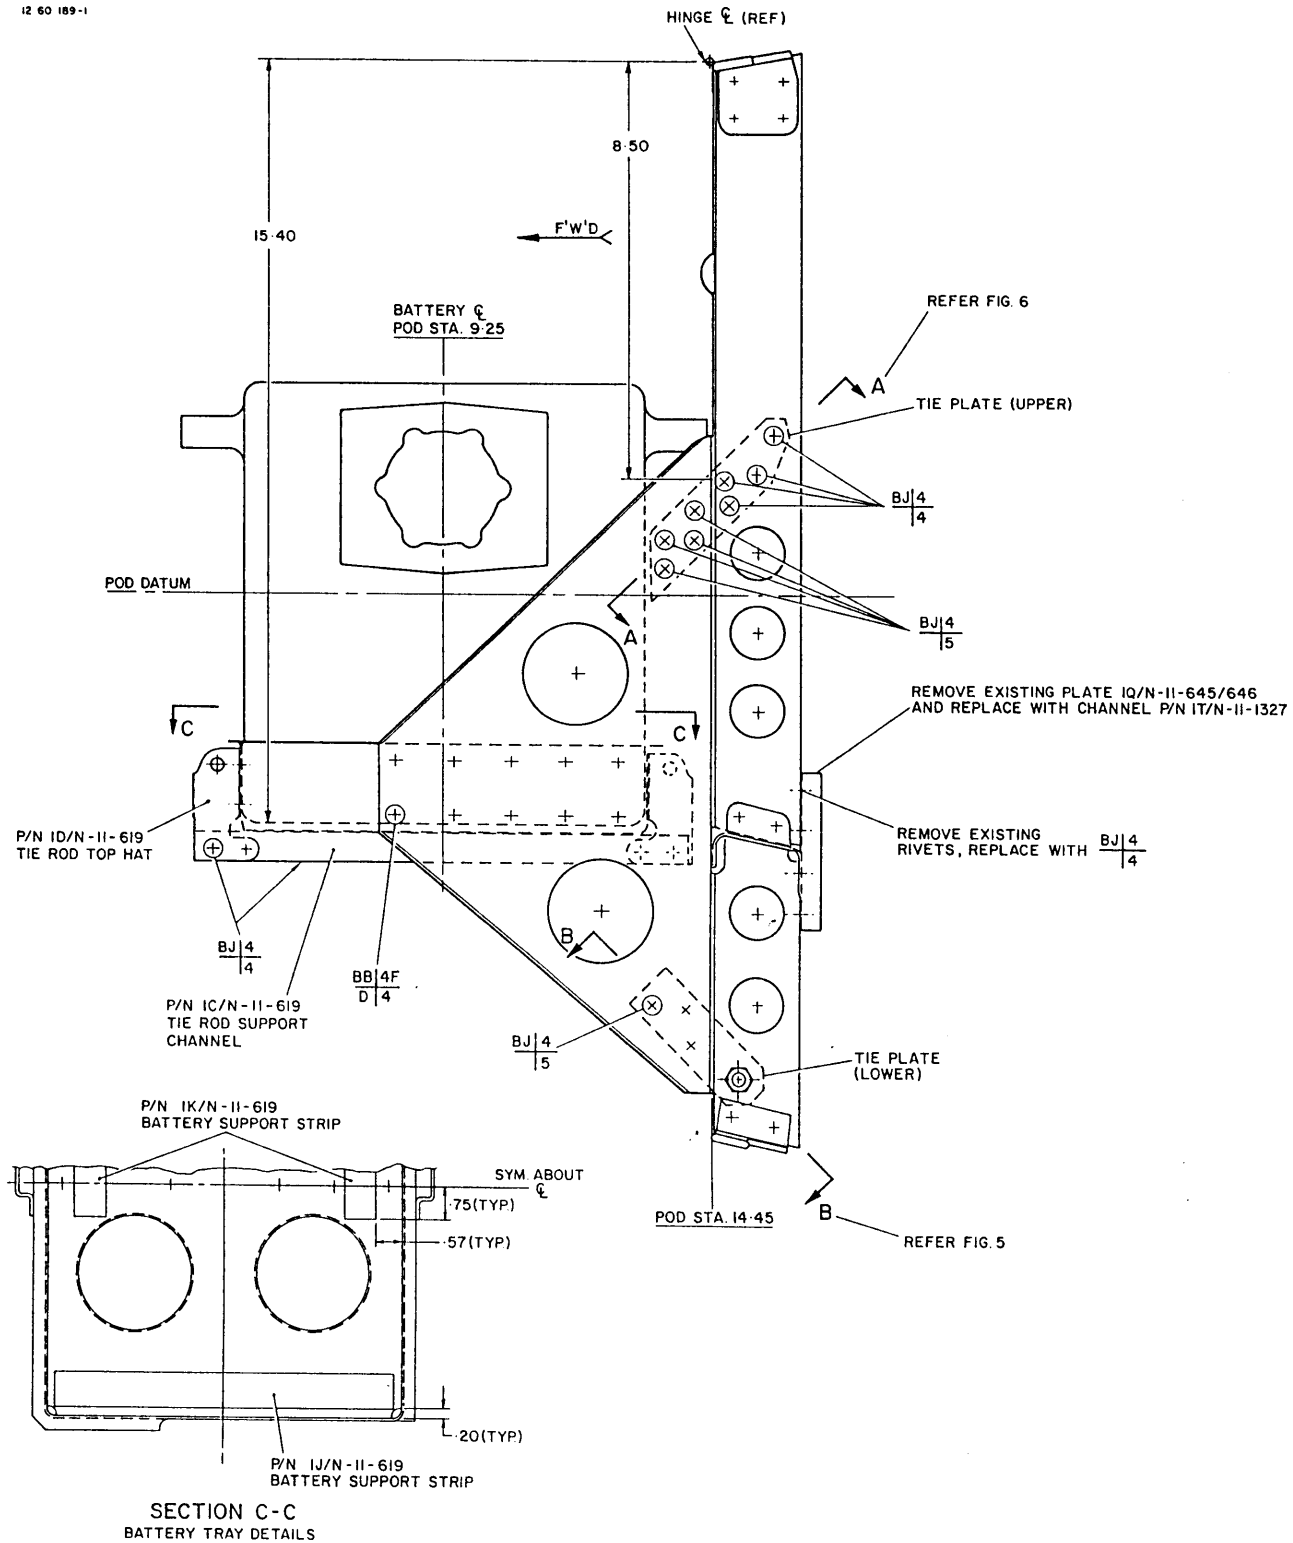

Figure 4 New Battery Tray Installation
- H. Refer to Figure 4. Attach Battery Support Strips PN 1J/N-11-619 and PN 1K/N-11-619 using PLIOBOND 20 adhesive or suitable equivalent.
- (4) Refer to Figure 4 and 6. Position RH upper tie plate and clamp to upper pivot support in pod.
- (5) Refer to Figures 4 and 5. Position RH lower tie plate and clamp to lower pivot support in pod. Use pivot bolt to ensure correct alignment of tie plate hole.
- (6) Refer to Figures 4, 5 and 6. Position RH side support. Insert upper and lower Packers PN 1G/N-11-1327 and PN 1H/N-11-1327 and clamp.
- (7) Ensure tie plates, packers and side support are correctly positioned. Back drill rivet holes on side support using a right angled drill. Drill all other rivet holes.
- (8) Dis-assemble, deburr and remove swarf.
- (9) Rivet upper tie plate to upper pivot support.
- (10) Re-assemble side support, packers and upper and lower tie plates and pin in correct position.
- (11) Rivet side support to Pod Sta 14.45 and pivot support. Rivet side support, packers and upper and lower tie plates.
- (12) Repeat steps 4 to 11 for LH side support. Ensure both side supports are horizontally aligned.
- (1) Refer to Figure 4. Position battery tray assy and clamp to L and R side supports. Ensure the floor of the tray is at right angles to pod Sta 14.45, is 14.50 in below hinge PN 1B/N-11-620 and the fore and aft battery tray centre line is 5.20 in forward of Pod Sta 14.45.
- (2) Drill, dis-assemble, deburr, reassemble, pin in position and rivet battery tray to side supports.